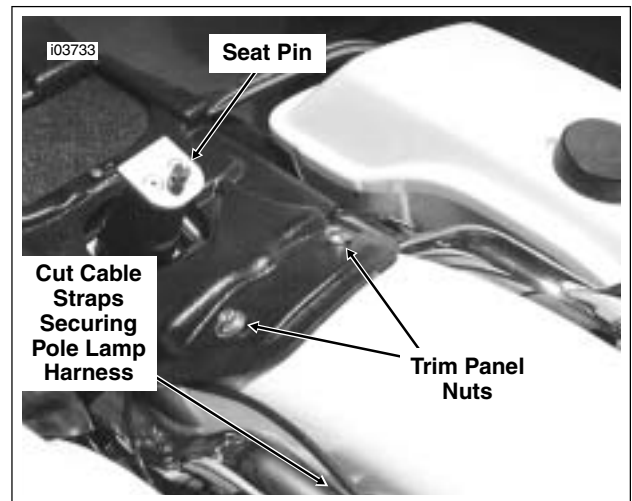

Figure 8-35. Remove Trim Panel
5. See Figure 8-35. Remove the quick release seat pin clip from the seat pin and pivot the seat forward as far as possible. It may be necessary to tie or brace seat in the full forward position.